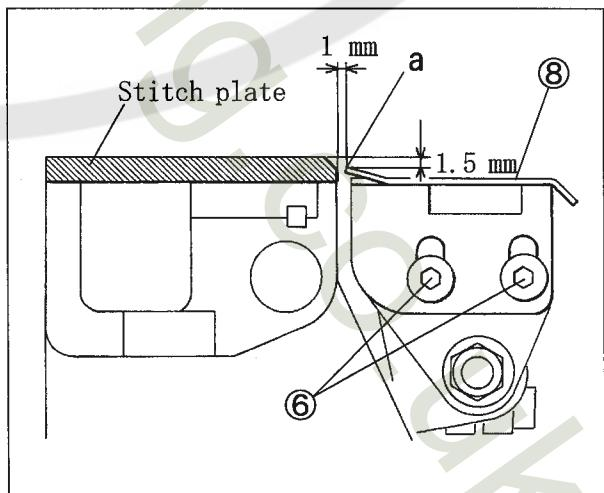

Fig. 9
- (5) Loosen the screw⑨ to make the clearance between the tip "a" and the stitch plate to about 1 mm with the stop⑩ when setting the folder⑦. Tighten the screw⑨ securely. (Figs. 9 and 10)
- (6) Install the supporting plate⑪ on the cylinder of the machine⑫ to support the fabric guide support⑧.